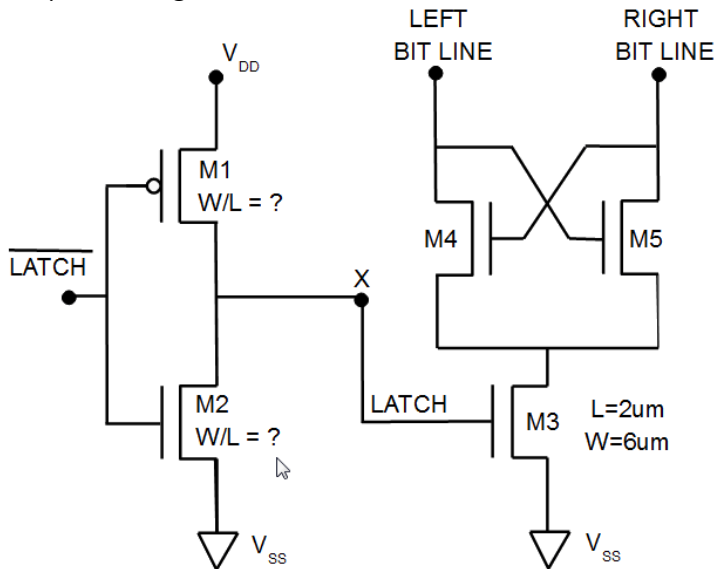

Fig. 5.1
5. Fig. 5.1 shows the schematic for a sense amplifier for a DRAM. The LATCH signal instructs the amplifier to sense the voltage difference between the left and right bit lines. Transistor M3 has $L = 2 \mu\text{m}$ and $W = 6 \mu\text{m}$. The gate oxide thickness $t_{ox} = 25 \text{ nm}$. $V_{Tn} = -V_{Tp} = 0.5 \text{ V}$ and $\mu_n = 2\mu_p = 600 \text{ cm}^2\text{V}^{-1}\text{s}^{-1}$. $V_{DD} = 3 \text{ V}$.